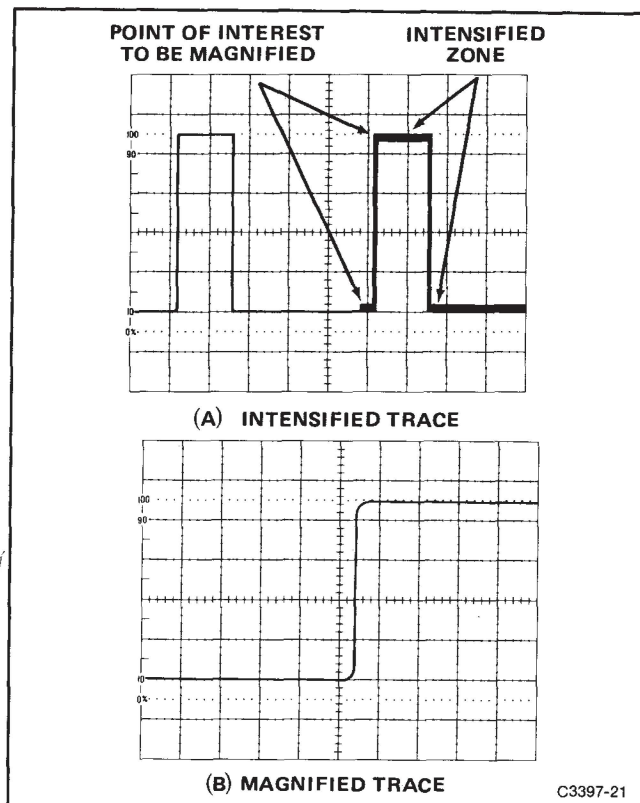

Figure 4-10. Delayed-sweep magnification.
6. Select the DLY'D HORIZONTAL MODE and increase the sweep speed to magnify the intensified portion of the sweep (see Figure 4-10).